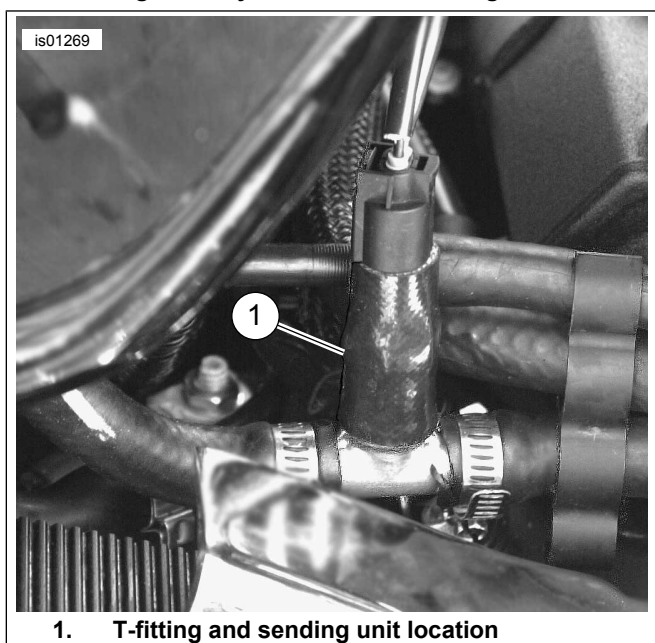

Figure 6. 2004 XL Sending Unit
3. See Figure 17 and Figure 6. Fit the T-fitting (15) and sending unit (17) (Figure 6, Item 1) to the supply (feed) hose.
6. Push ends of hose with worm gear clamps (11) onto T-fitting and sending unit.